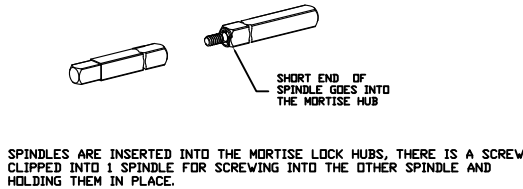

FIG 2
2. PLACE THE 2 INSIDE MOUNTING POSTS THROUGH HOLE NUMBER AS DESIGNATED ON THE ROSE- SEE FIG 2 & TABLE FOR CORRECT HOLES.
3. HOLDING THE 2 POSTS IN POSITION SLIDE ONTO THE MORTISE WITH POSTS GOING THROUGH THE MORTISE THROUGH HOLES. SEE FIG 2. NOTE- CAN INSTALL THE KNOB ASSEMBLY ON THE OUTSIDE PER STEP 7 AND THIS WILL HOLD THE POSTS IN POSITION.
4. ON THE OPPOSITE SIDE- PUT THE 2 MOUNTING SCREWS THROUGH HOLES (SEE TABLE) AS DESIGNATED ON THE ROSE- SEE FIG 2. ALIGN THE SCREWS WITH THE POSTS AND TIGHTEN.